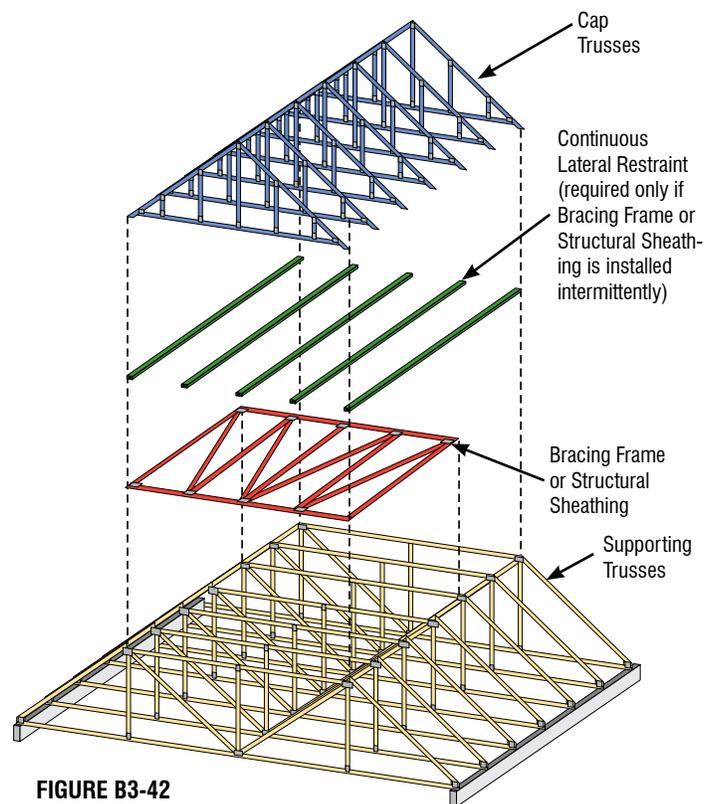

FIGURE B3-42
- Adding Structural Sheathing or using Bracing frames (see Figure B3-42)